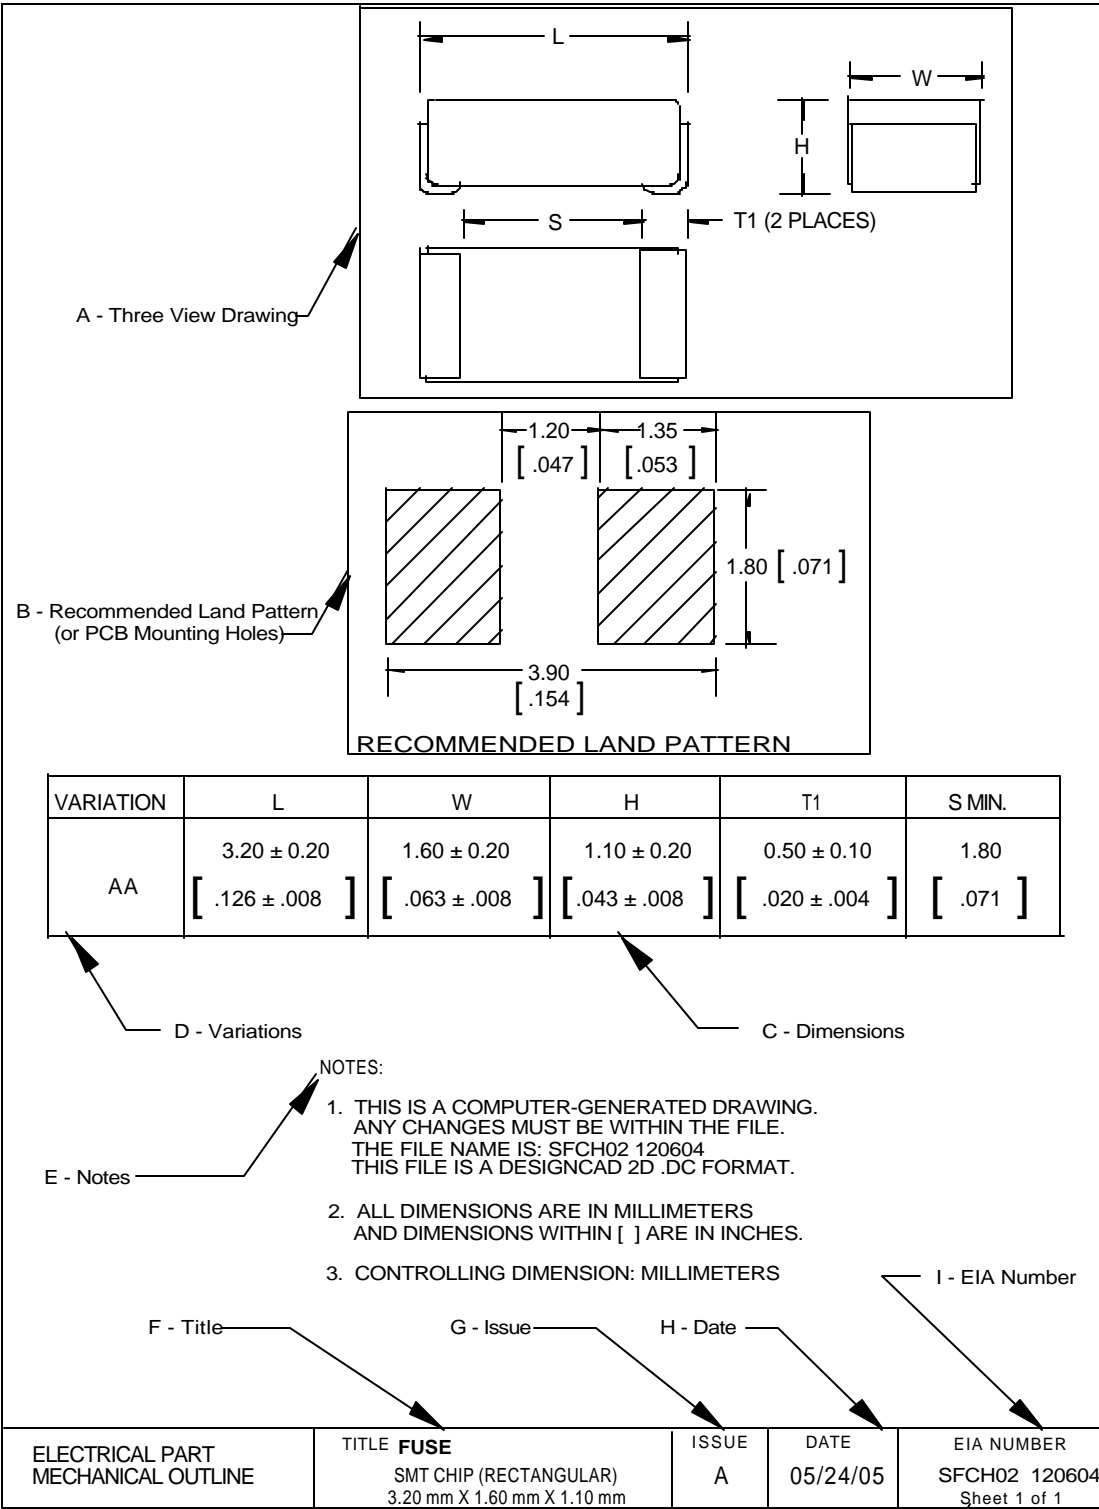

FIGURE 1
Several outline parameters are shown in Figure 1, following. The intent of these outlines is to provide only mechanical information for use by the design engineer without directly supplying the source of the device.
5.1 A three-view line drawing showing important dimensions for the device (Figure 1, A) shall be provided at the top of the Mechanical Outline.
5.2 A recommended land pattern for surface mount devices, or hole layout and dimensions for leaded devices, shall be located immediately below the three-view line drawing. (Figure 1, B) Note that the dimensions provided are only "recommended". The end user may elect to deviate from the recommendations, provided they have adequate spacing for their application. Components not intended for surface mount or leaded connections (e.g. cartridge devices to be used in clips or holders) need not have a recommended land pattern.
- 5.3 Dimensions are always provided in a table (Figure 1, C) as letter references to the three-view line drawing. These dimensions will be provided as metric and [non-metric] values. Dimensions for the recommended land patterns, or hole layout, are provided on the drawings. (Figure 1, B)
- 5.4 Each “Variation” (e.g. AA, AB, AC, etc.) will provide specific component dimensions for an available device type. This is shown in Figure 1, D. The nominal values may be equivalent, but there may be differences in the tolerances. Or, there may be slight differences in the nominal values and tolerances. If the number of “Variations” exceeds the space available on the first page of the Mechanical Outline, an additional page will be added. (Figure 1, J) The EIA Drawing Number (Figure 1, I) will remain the same for all pages of the same Mechanical Outline.
- 5.6 The Title (Figure 1, F) shall consist of a brief description (including component type) of the package being presented.
- 5.7 Both the Mechanical Outline Issue (Figure 1, G) and Date (Figure 1, H) will be assigned by the P-4 Committee upon acceptance.